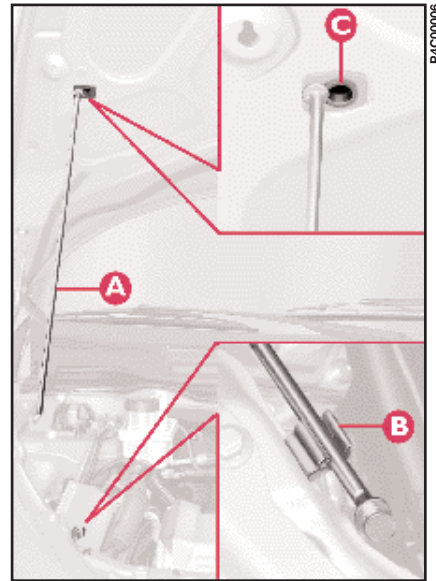

fig. 82
- 3) Lift the bonnet, and release the support rod **A** (fig. 82) from its clip **B**.
- 1) Hold the bonnet up with one hand and, with the other, remove rod **A** (fig. 82) from recess **C** and replace it in its clip **B**.